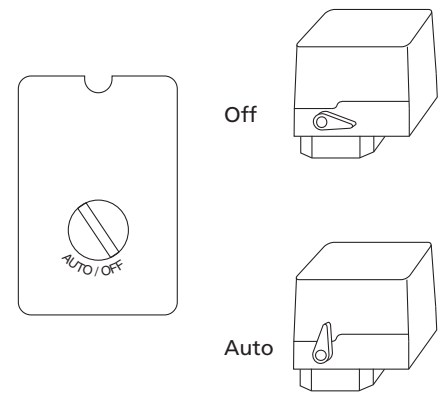

Figure 4
2. Turn pressure switch lever or knob to OFF position and plug in power cord (See Figure 4). Turn off disconnect switch if there is no lever or knob on the pressure switch.
3. Turn pressure switch lever or knob to AUTO position and run unit for 30 minutes to break in the pump parts (See Figure 4).